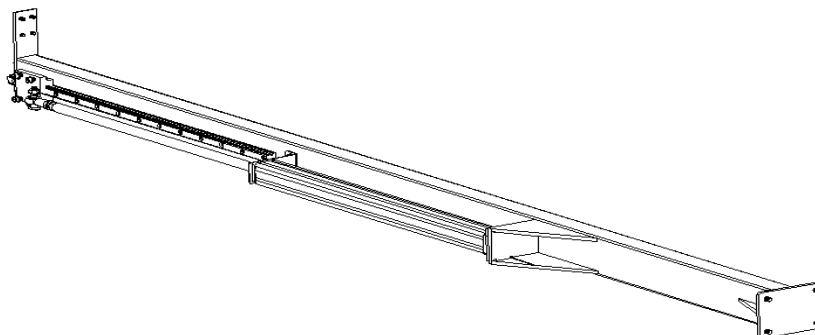
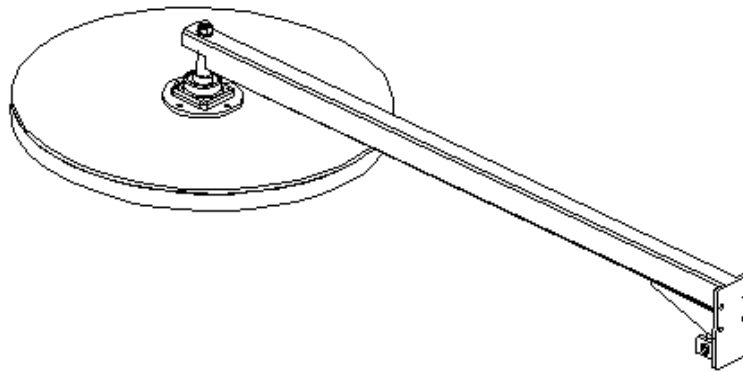

Fig.7-1
Fig.7-2
1. Press unit(to select part)(Fig.7-1, Fig.7-2)